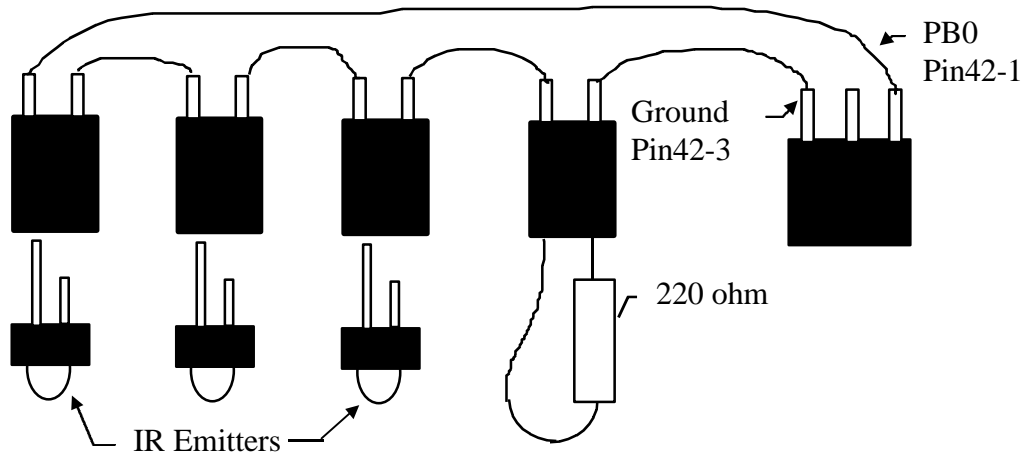

Figure 25 IR Emitter Circuit.
1. Make three, 2-pin female connectors for the three IR emitters (Figure 25).
3. Wire the three IR emitter, 2-pin, female connectors in series with the 220ohm resistor-jumper constructed in step 1 (Refer to Figure 10 and Figure 25). Suggested colors: yellow and green wire.